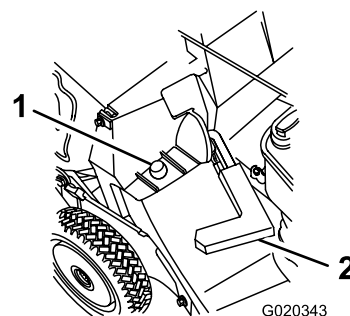

Figure 26
3. Ensure that the discharge door handle is fully forward (Figure 26).
4. Slide the hole in the bag frame onto the retaining post on the discharge tunnel (Figure 26).
2. Raise the discharge door handle and move it forward so the pin clears the bag notch (Figure 26).